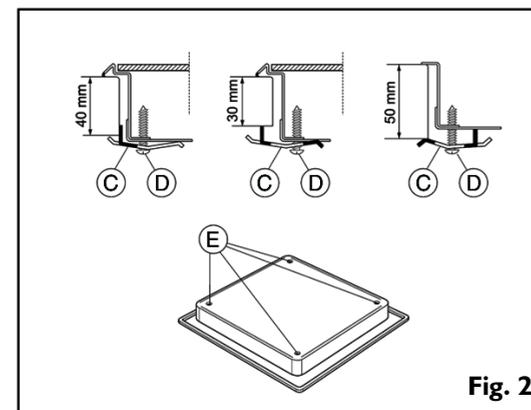

Fig. 2
**Attention:** to install the hob on other surfaces than wood (marble, plastic, ceramic, marble, stone, etc.) remember to ask After Sales Service for the fixing plates (fig. 2) Code 4819 404 78697.
- **If the worktop is made of marble, plastic, ceramic, stone, etc.**, the hob must be secured with special brackets (C) (fig. 2).
2. Place the 4 brackets (C) in position in accordance with the thickness of the worktop as shown in fig. 2.
3. Fasten the 4 screws (D) in the positions (E) (fig. 2).